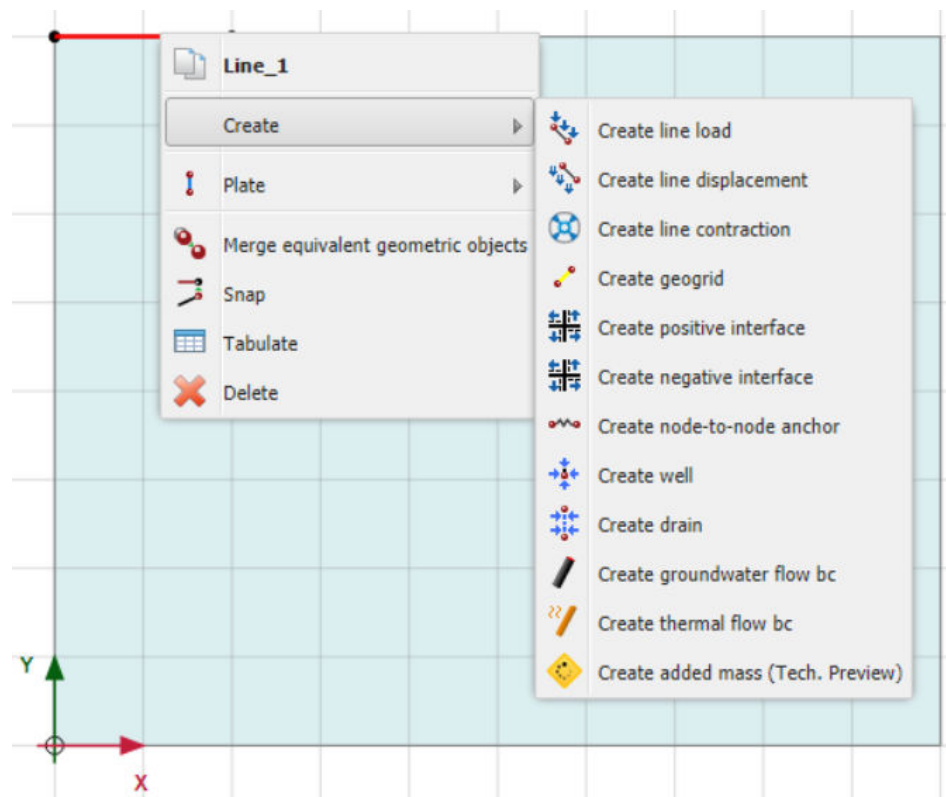

Figure 23: Create line load option
5. In the model right-click again the line at the location of the footing and select **Create > Create Line load** as shown in Figure 23 (on page 33).